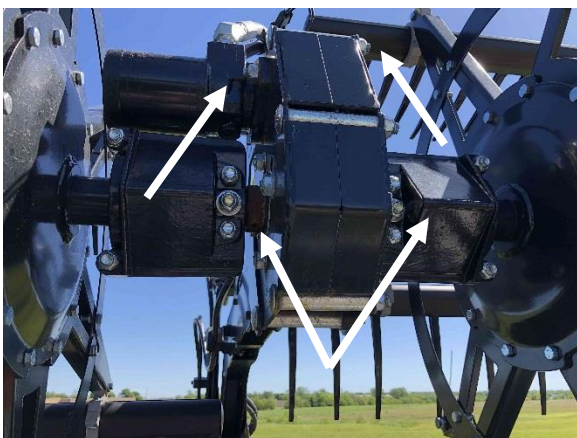

Figure 177
1. If there is flow at the motor, remove the motor from the gearbox. This is done by removing the two bolts on that retain the motor to the gearbox. Figure 177
2. Remove the coupler covers to remove the rubber couplings. Figure 177